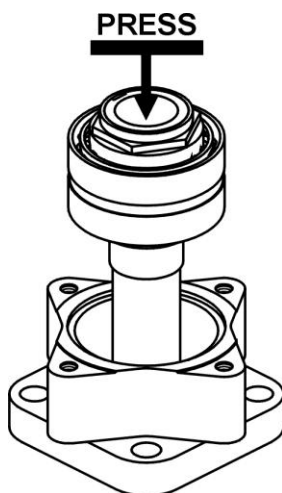

Fig.7
4. Use a press to install output shaft with bearing kit into housing (see Fig.7). Be careful not to invert or damage the seals.